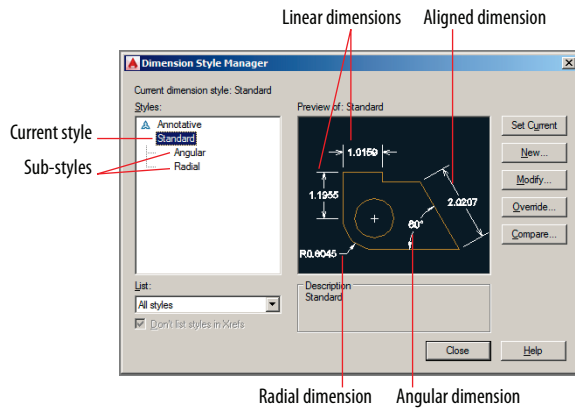

FIGURE 11.9 The preview image shows how different types of dimensions will appear when they are added to the drawing.
9. Select Standard in the styles list in the left pane of the Dimension Style Manager. The preview image now shows the cumulative effect of the style and its sub-styles: open arrowheads for linear and aligned dimensions and closed filled arrowheads for angular and radial dimensions (see Figure 11.9). Click Close.